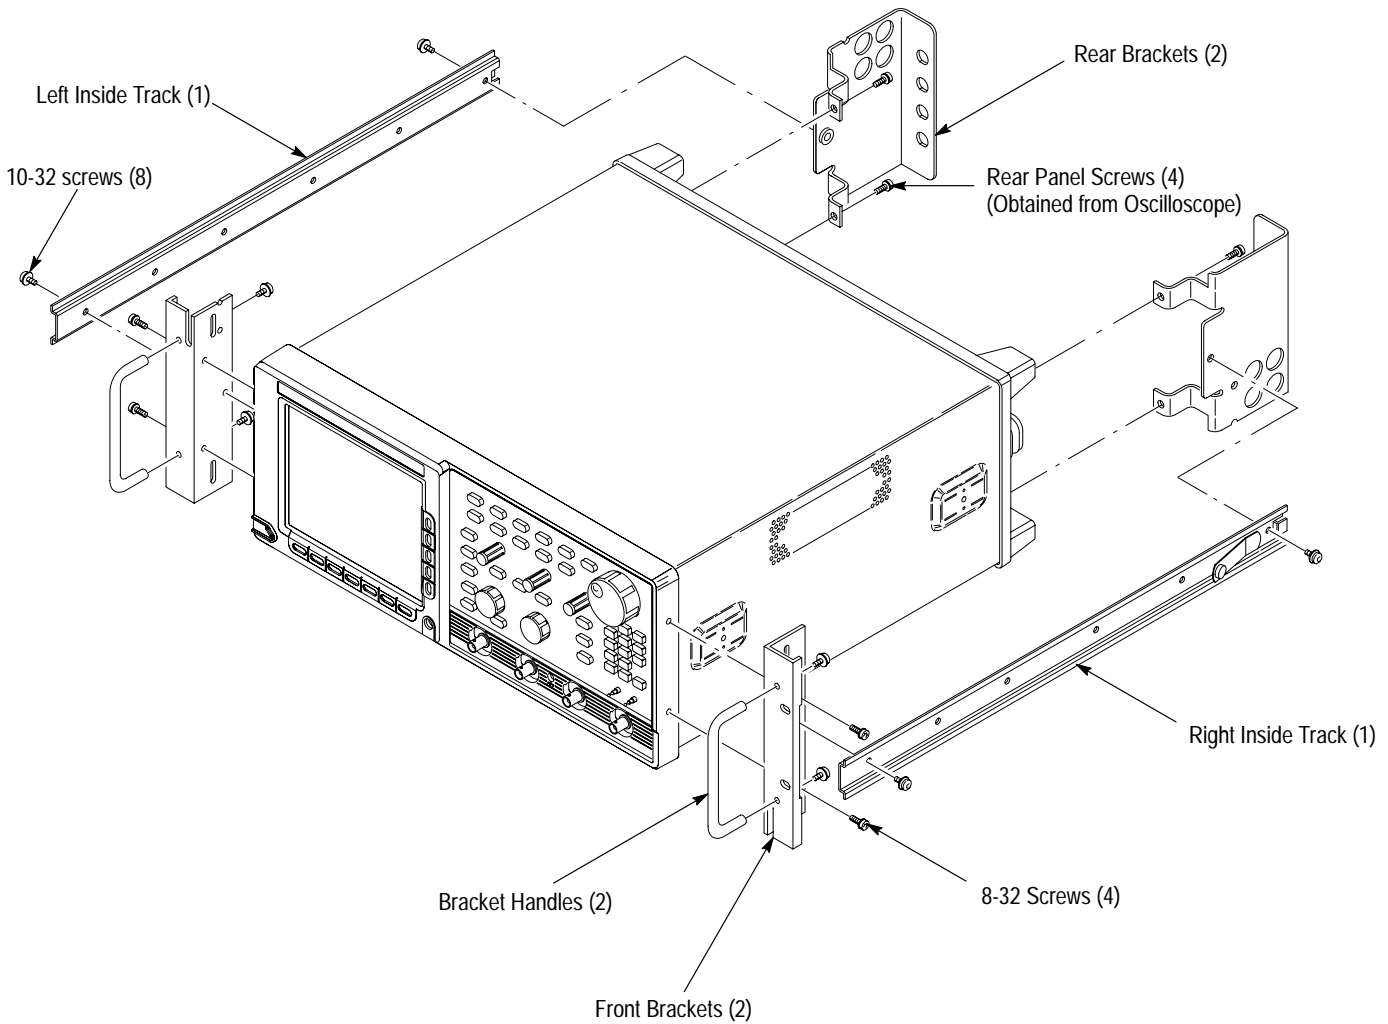

Figure 6: Installation of Kit Hardware to Oscilloscope
1. *Assemble the hardware:* Unpackage and identify the hardware shown in Figure 6. Refer to Figure 6 as you perform the following steps. (The parenthesized numbers appearing with the hardware items in the figure refer to the quantity of the item used to install the kit hardware.)
c. Attach the brackets: Using the screws removed in step b, install the two rear brackets as shown in Figure 6. When reinstalling the four screws at the rear panel, tighten them to 16 inch-lbs torque.
- Locate the two inside tracks in Figure 6.
- Using a screwdriver with a Pozidrive tip (Items 1 and 3), install the right inside track to the front and rear brackets using two screws (10-32). (Tighten the screw using 28 inch-lbs. of torque.) Note the button latch should be facing away from the oscilloscope and towards its rear. Use Figure 6 as a guide.